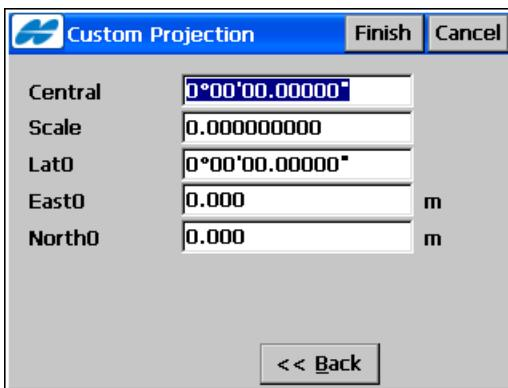

Figure 3-12. New Projection Specifications
- *Transverse Mercator*: conformal cylindrical projection (see Figure 3-12 on page 3-15 for more information).
If the **Transverse Mercator** projection is the selected type for constructing a custom projection, the **Custom Projection** screen displays the following fields (Figure 3-12):